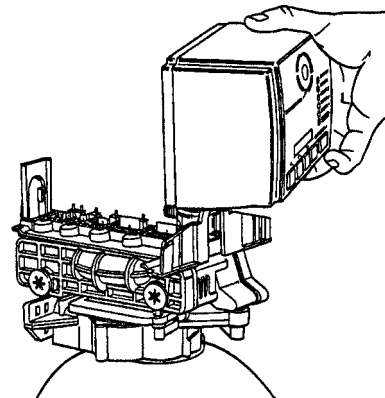

Figure 14
7. Lift the control off the valve, Figure 14. To replace the control, reverse the above procedure. Note that the camshaft needs to be positioned correctly before it can be inserted into the back of the control. There is a locating rib on the camshaft. Position the rib on the top of the shaft and slide the camshaft into the control. Push up on the end of the camshaft, furthest from the timer, snapping it into place.